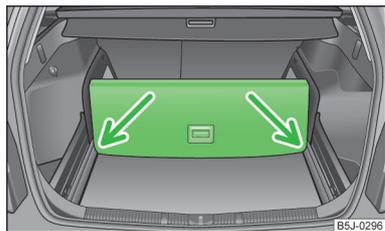

Fig. 67
- › Lift up the part with the grip and secure it by sliding it into the grooves marked with the arrows » Fig. 67.